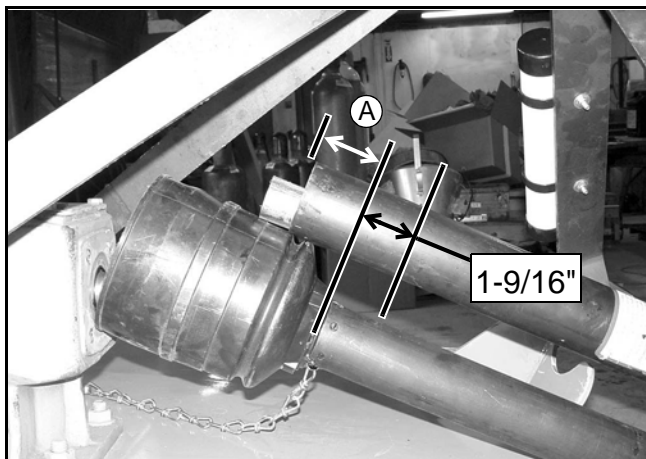

Figure 6. Determine Shield Length
3. Measure from end of the upper shield to the base of the bell on the lower shield (A). Add 1-9/16" to dimension (A). See Figure 6.